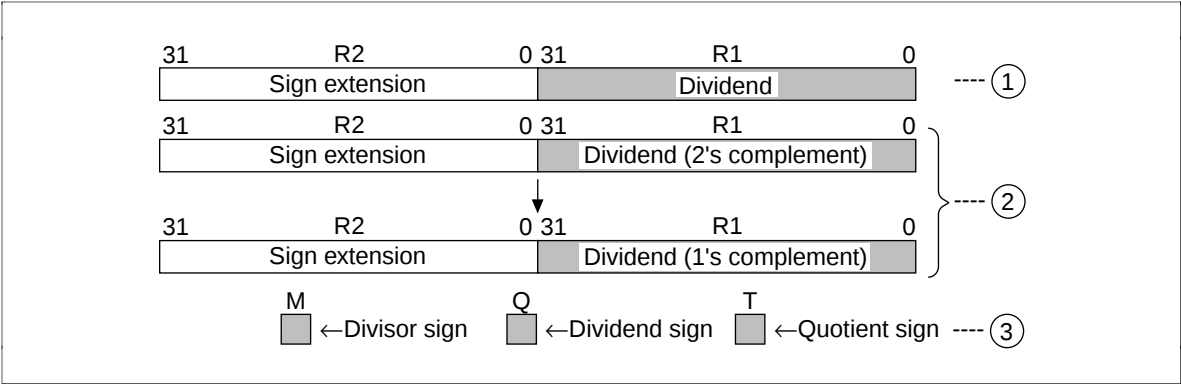

Figure 3.60 Initial Setting (DIVS32R)
- 1. Takes R2's upper 32 bits and zero-extends the dividend to 64 bits (figure 3.60 (1)).
- 2. If the dividend is negative, converts it to 1's complement for handling by the one-step division instruction (figure 3.60 (2)).
- 3. Sets the M, Q, and T bits used in one-step division to signed division values (M = divisor sign, Q = dividend sign, T = quotient sign) (figure 3.60 (3)).